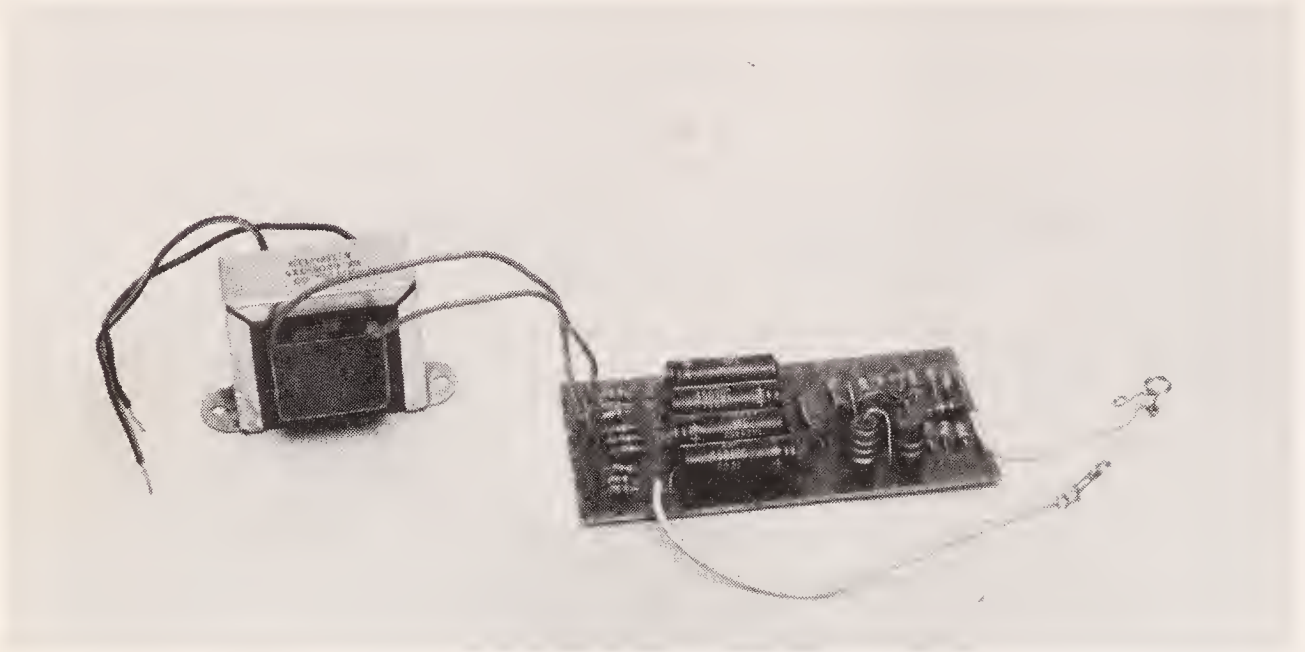

Fig. 2-1. Laser power supply module.
- The power supply module (Fig. 2-1).